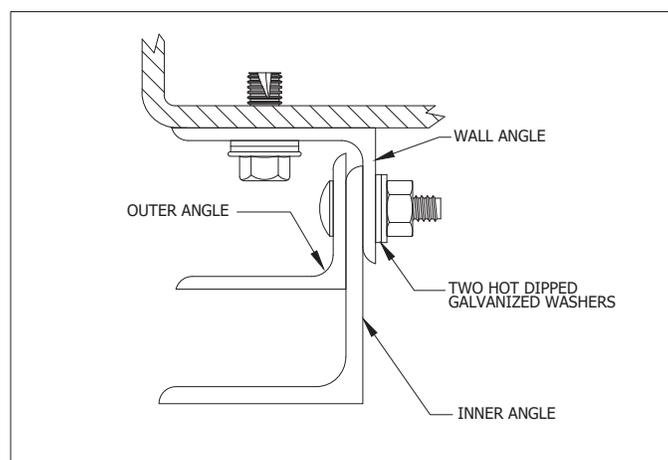

FIGURE 11
- a. Use two hot dipped galvanized washers under each nut as shown in Figure 11.